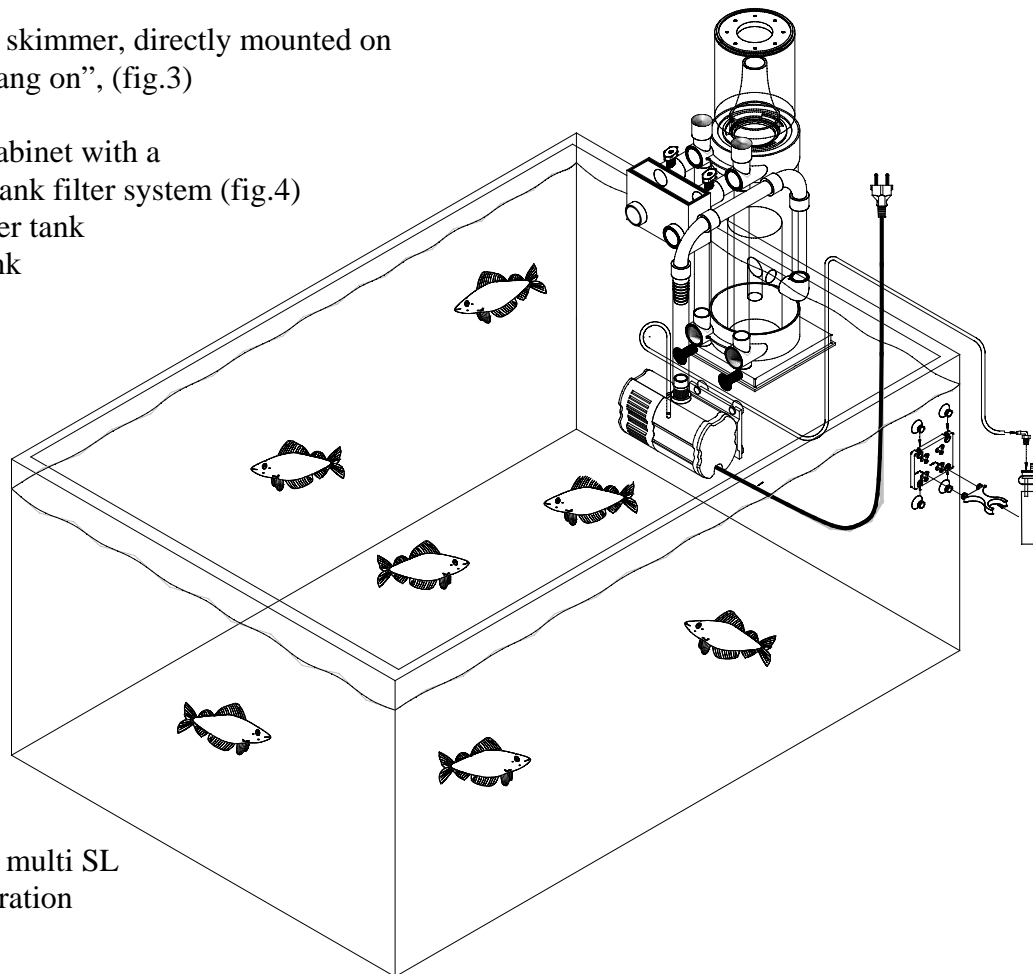

Fig.3: Turboflotor multi SL in "Hang on" operation
1. As an external skimmer, directly mounted on the aquarium: "Hang on", (fig.3)
### Set up as an external skimmer on the aquarium - Hang on (fig.3)
We recommend securing the hose with the clips provided. Now the skimmer can be aligned with the aquarium. The two screws at the bottom of the skimmer are adjusted in such a way that the skimmer is hanging safely on the aquarium. It is advantageous if the skimmer is not 100% upright, but leaning slightly ( $5^\circ$ ) to the aquarium (Fig.3). The skimmer is then not only hanging more safely, but also back-flow of water from the outflow box over the aquarium frame is prevented. Both adjusting screws at the bottom are supplied with silicone suction cups for increased safety.